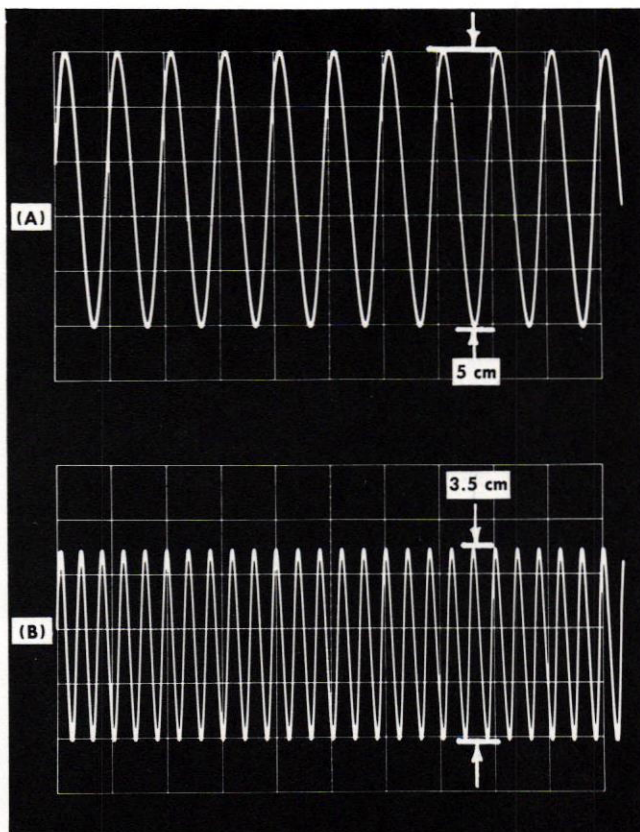

Fig. 5-6. Bandwidth of P6042 (A) 50 kHz display (B) 50 MHz display.
- b. Increase the frequency of the constant amplitude signal generator until the amplitude of the display reduces from 5 centimeters to 3.5 centimeters. See Fig. 5-6.